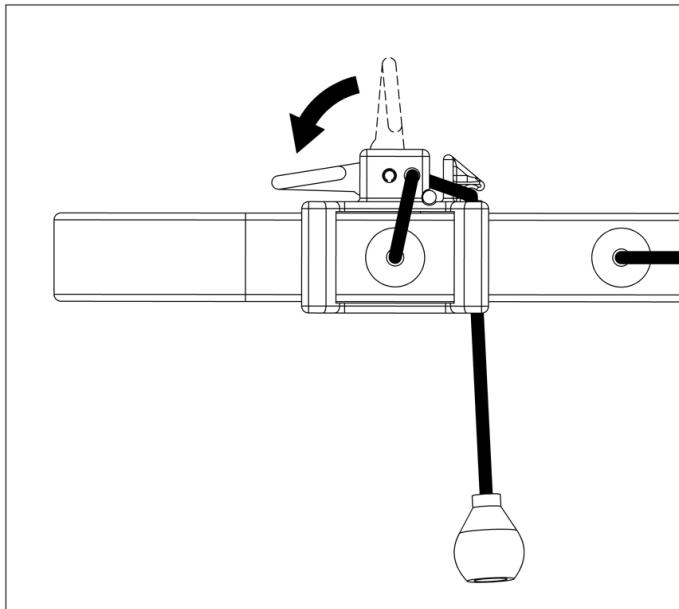

Fig 2. Pull cord tight, feed through hole in L.T.L. and lock down lever.
9. Tie off the cord and lock the L.T.L. (Figs 2 and 3)
10. Tie off the cord and lock the L.T.L. (Figs 2 & 3)